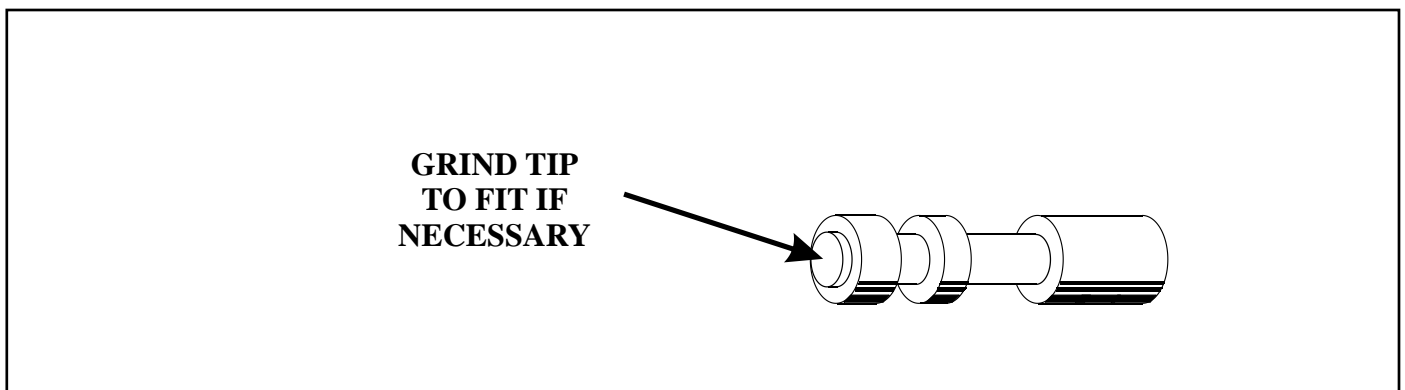

Figure 3
- (8) Grind the tip of the reverse engagement control valve as necessary to get the bore plug and the "L" shaped retainer installed correctly (See Figure 3).